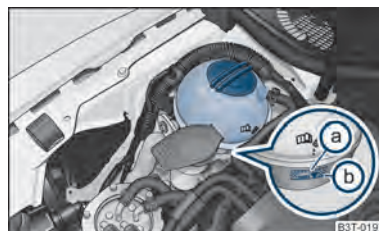

Fig. 174 Engine compartment: Coolant expansion bottle
- Check the level of coolant in the coolant expansion bottle ⇒ fig. 174. The coolant level when the engine is cold must lie between the (b) (MIN) and (a) (MAX) markings. The level may also rise slightly above the (a) (MAX) marking when the engine is warm.
- Place a cloth over the cap of the coolant expansion reservoir ⇒ fig. 174 and unscrew the cap **carefully** by turning it to the left ⇒ ⚠.
Do not fill the coolant above the mark Ⓐ (max.) ⇒ fig. 174! Excess coolant heats up and then is forced out of the cooling system through the pressure relief valve in the cap.